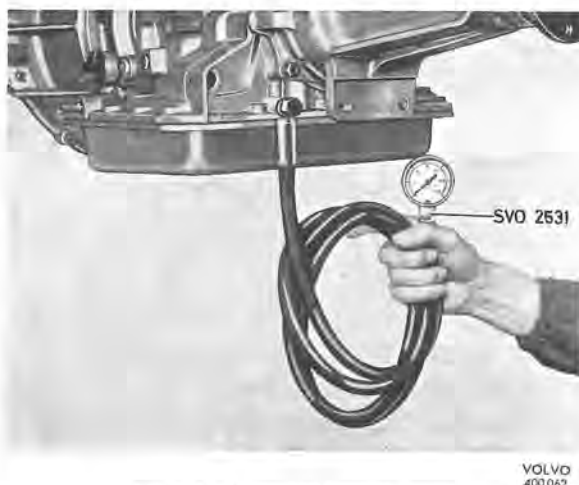

Fig. 4-74. Connecting pressure gauge
1. Connect a tachometer to the engine and pressure gauge to the transmission as shown in Fig. 4-74.
2. Chock the wheels and apply the brakes. Start the engine and move the lever to "D". Read off the pressure at 8.3 and 16.6 r/s (500 and 1000 r/m). At 16.6 r/s (1000 r/m) the gauge to the transmission as shown in Fig. 4-74, pressure should be 1.8—2.1 kp/cm² (25—30 psi) higher than at 8.3 r/s (500 r/m). If the pressure rise is less than 1.8 kp/cm² (25 psi), the effective length of the outer cable should be increased by means of the adjuster. Conversely, if the rise is more than 2.1 kp/cm² (30 psi) the effective length of the outer cable should be decreased.